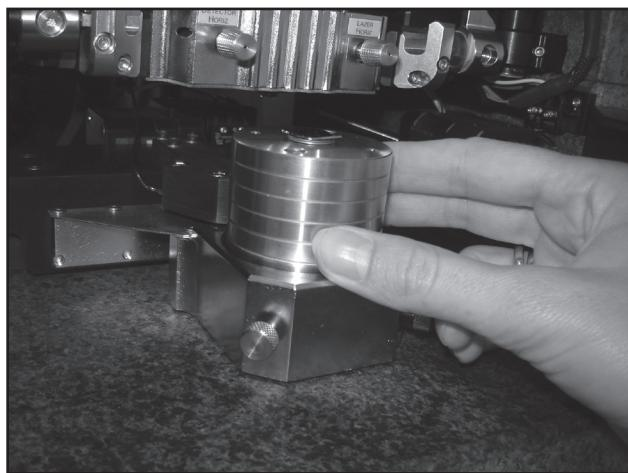

Figure 3.20: Remove Puck
5. Being careful not to touch the probe, lift the sample puck out of the groove. (Figure 3.20)